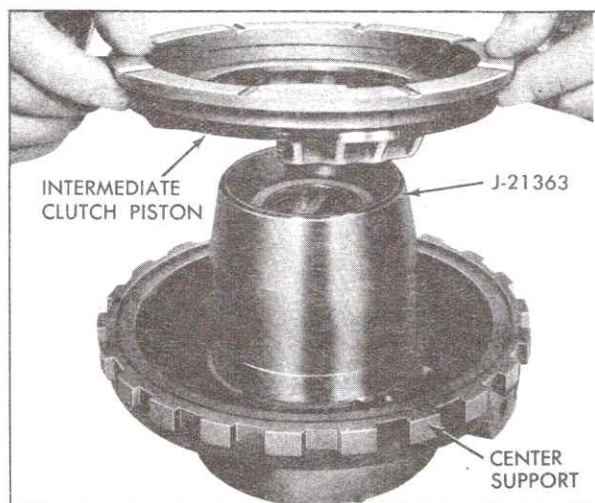

Fig. 7-175 Installing Intermediate Clutch Piston
b. Place Intermediate Clutch Inner Seal Protector, J-21363, over center support hub, Fig. 7-175, and install intermediate clutch piston.